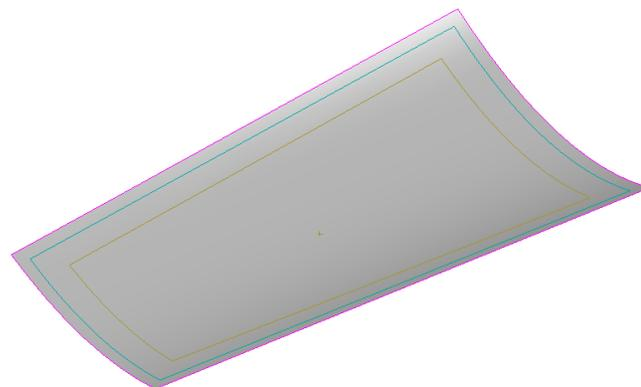

Figure 7–27
1. Open **CORE_B.prt**. The model displays as shown in Figure 7–27.